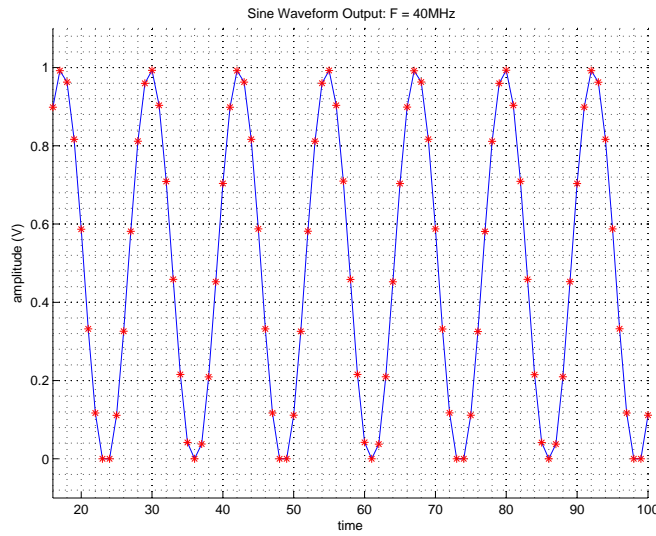

Figure 4.15: Measured: ADS5463 Digitized 40MHz Sine Wave; Time Domain
i. Sine Waveform @ F = 40MHz; Time Domain (See Figure 4.15.)